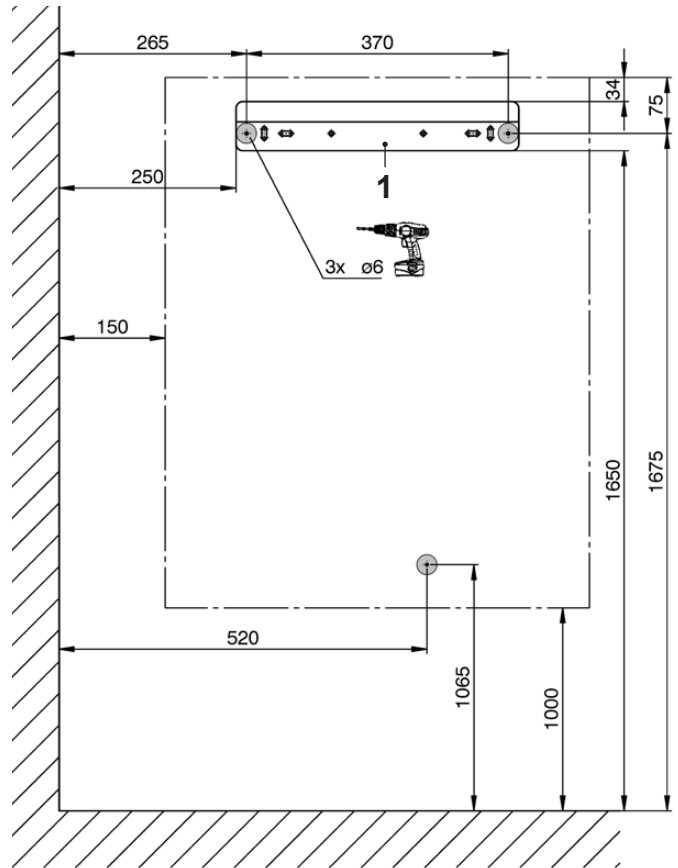
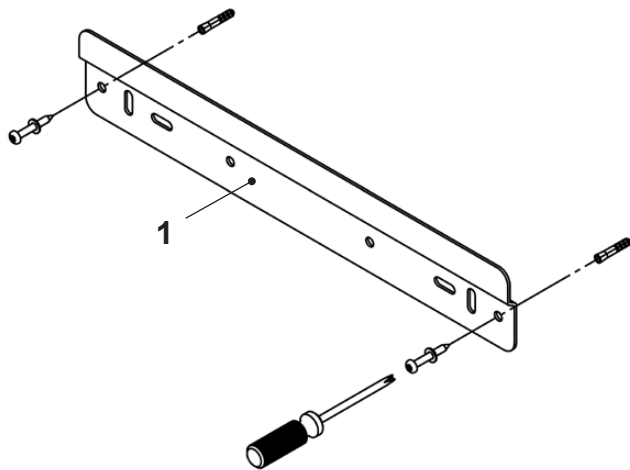

Fig. 10
Fig. 09
- A distance of 1750 mm from the floor to the upper edge of the wall bracket is recommended (see Fig. 10).
1. Mount the wall bracket supplied with the electrical box (1, Fig. 09, Fig. 10) at the required height using two of the dowels and wood screws supplied.